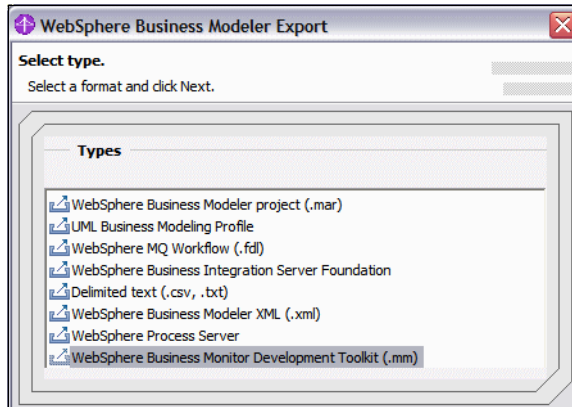

Figure 9-19 Export project with business measures
- ▶ Select the type of export you want. Select *WebSphere Business Monitor Development Toolkit* (Figure 9-19). Click *Next*.